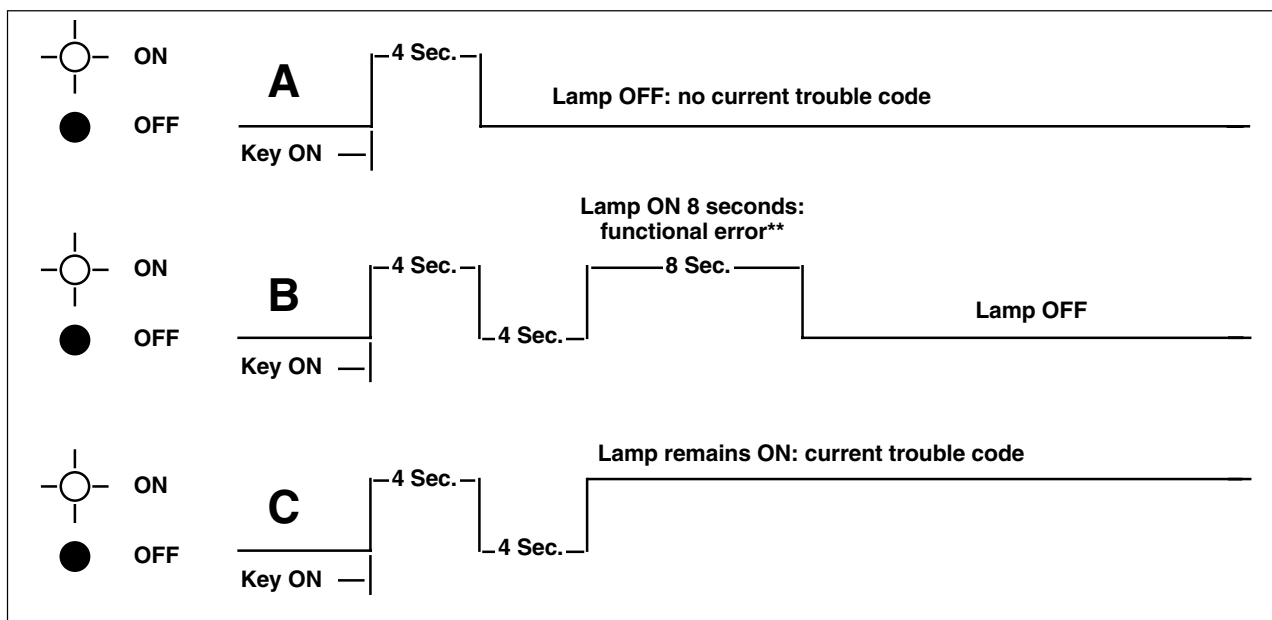

Figure 4-5. Check Engine Lamp Operation
2. See Figure 4-5. After lamp turns off after being illuminated for the first four second period, one of three situations may occur.